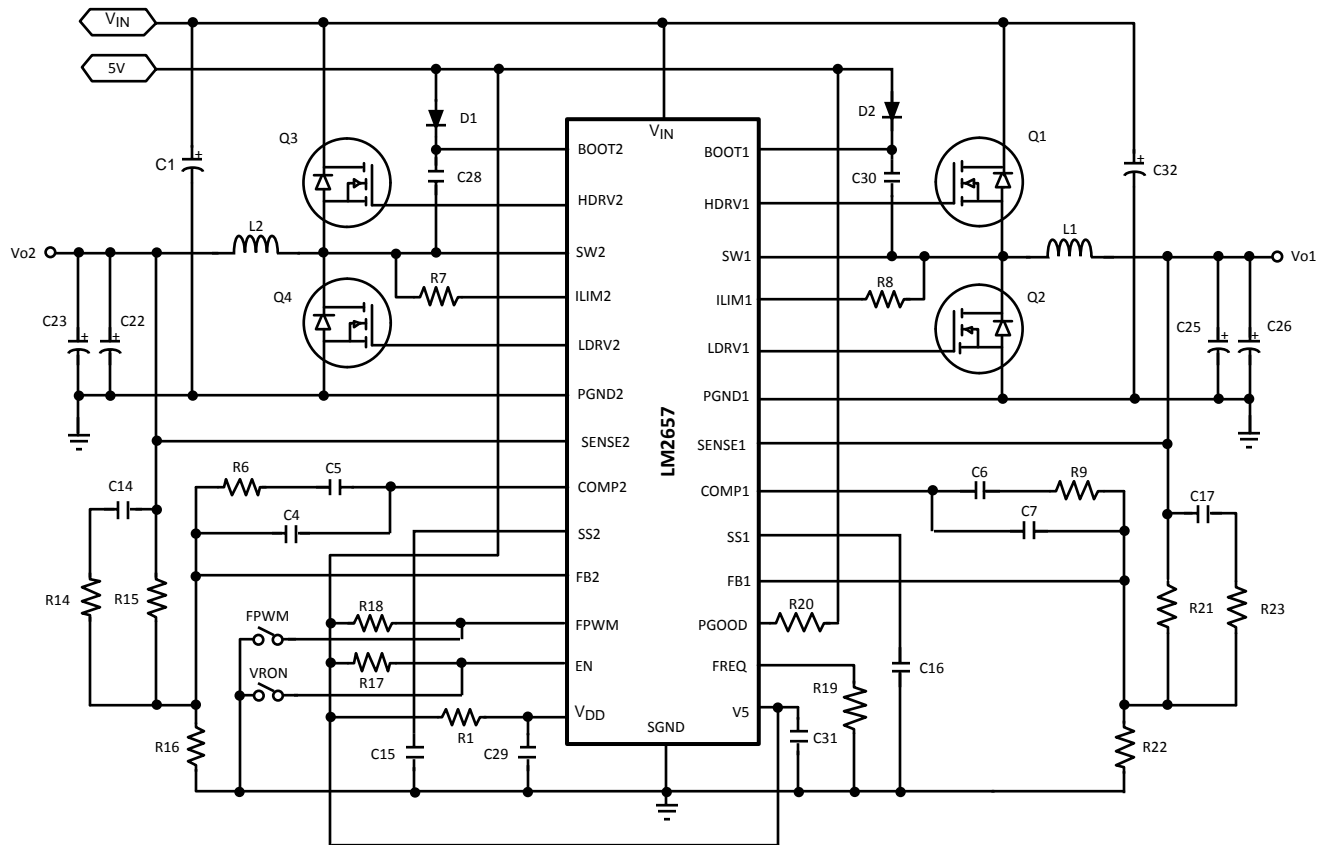

Figure 19. Typical Application (Expanded View)
**Table 1. Bill of Materials (Figure 19)
Table 2. Bill of Materials (Figure 19)